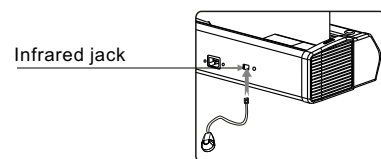

Figure 8
2. IR receiver with cable control (Figure 8)